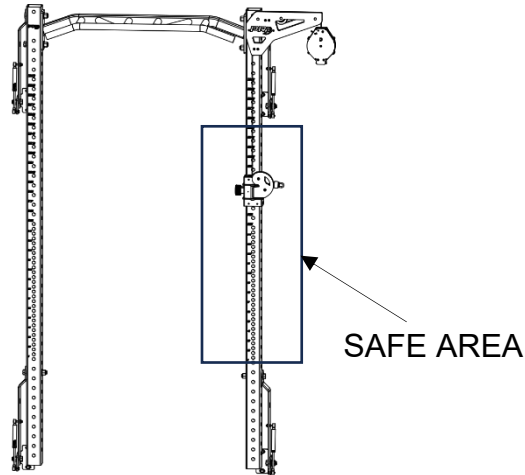

Figure 18: Trolley safe area for storage
- Trolley must be positioned within the box shown to avoid collision with the linkage arms (**Figure 18**).